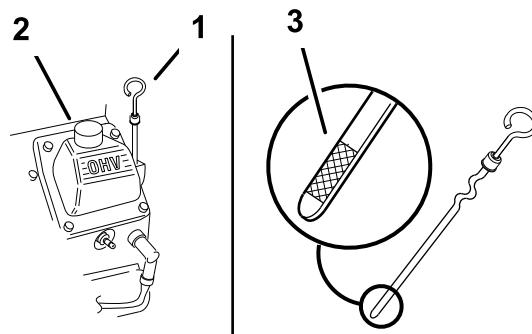

Figure 19
4. Unscrew the oil dipstick and wipe the end clean (Figure 19).
5. Slide the oil dipstick fully into the filler tube, but do not thread onto tube (Figure 19).
3. Clean around the oil dipstick (Figure 19) so that dirt cannot fall into the filler hole and damage the engine.
- Slowly pour approximately 80% of the specified oil into the filler tube (Figure 19).